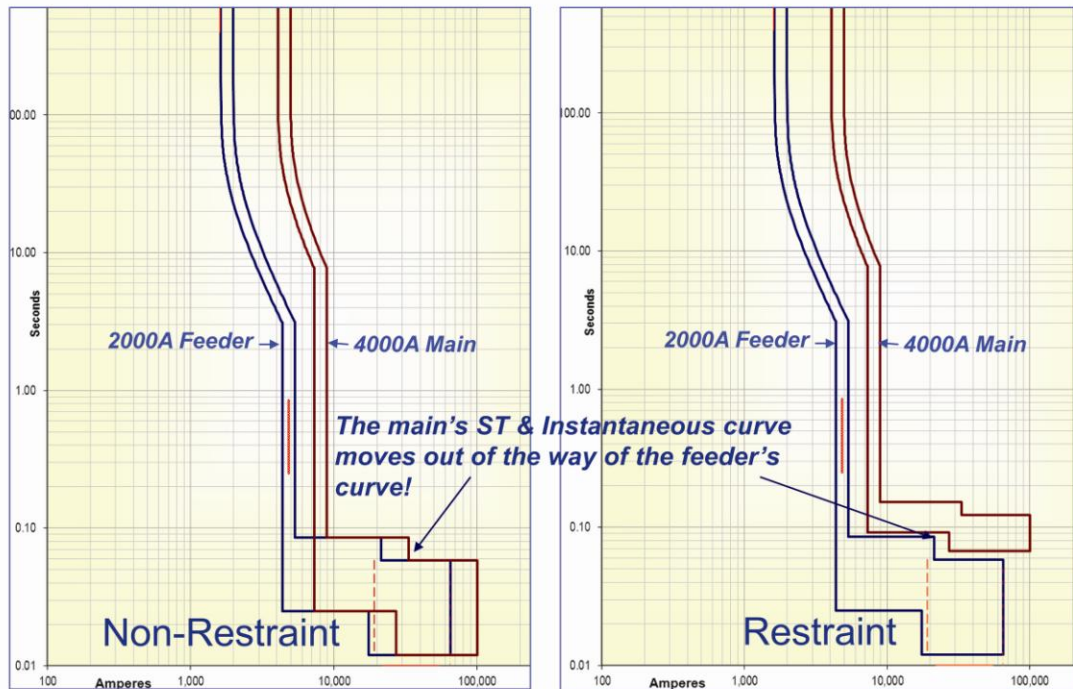

Figure 2: No fault (Non-Restraint) and fault (Restraint) conditions shown on TCC.
- b. The short time delay (STD), ground fault delay (GFD) and instantaneous can overlap under normal conditions (Figure 2 – Non-Restraint).
- c. Enable the instantaneous protection (I) on the main trip unit.
3. Set the trip unit of the main circuit breaker to the ZSI restraint setting as shown in Figure 2 – Restraint.
For a fault downstream of the feeder circuit breaker, the trip unit of this feeder circuit breaker will send a restraint signal to the trip unit of the main circuit breaker and will then trip to clear the fault within the programmed time. As the feeder circuit breaker had its instantaneous protection enabled, it will clear the fault within 50ms and reduce the arc flash energy at the downstream equipment. If the fault was further downstream, then the fault would be cleared by the downstream device nearest to the fault and because of waveform recognition, the trip unit on the feeder circuit breaker would not trip. The short time delay band on the trip unit on the main will move up to a pre-programmed time delay value. The instantaneous band will also move up to a pre-determined time delay value, thus moving out of the tripping region of the trip unit on the feeder closest to the fault (Figure 2 – Restraint). The main circuit breaker stays closed and the system's selectivity is maintained.